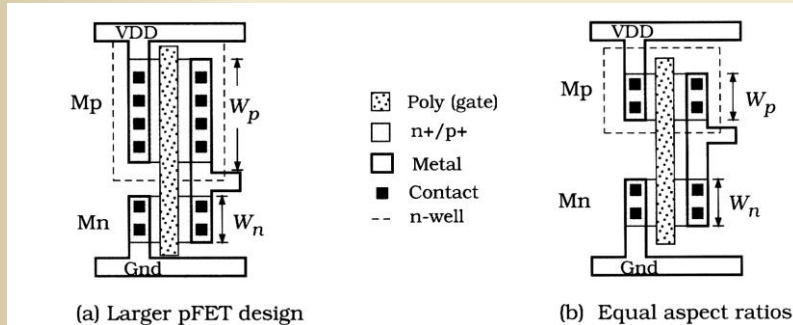

Figure 7.5 Comparison of the layouts for Example 7.1
- ◆ Figure 7.5 illustrates the difference that uses the two design styles